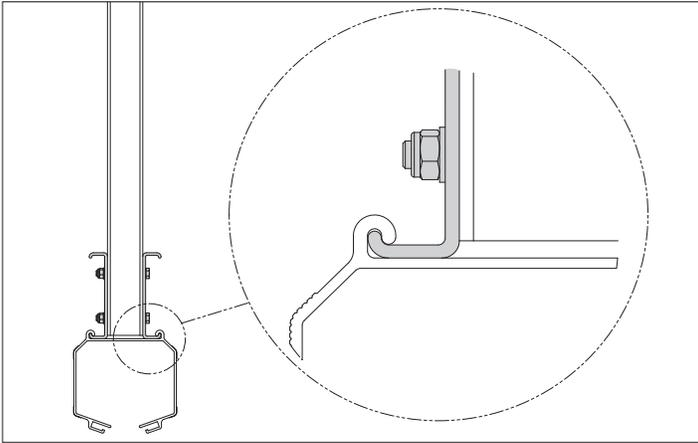

Fig. 4.7.3 Top suspension connected to the rail.
- The lower brackets need to be inserted in the rib on the top of the rail on each side. Refer to fig. 4.7.3.